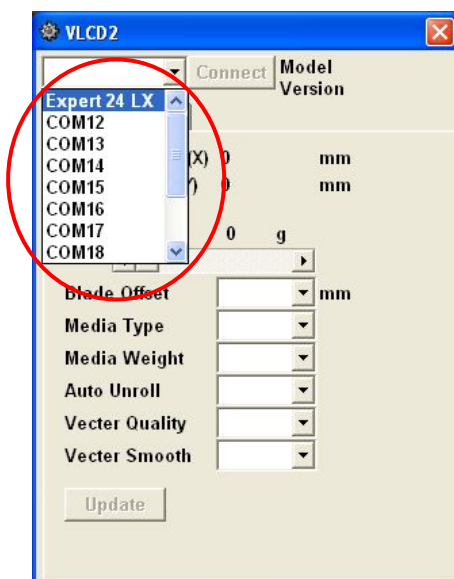

Figure 3-2
Step 3 choose the right port connected to your computer (Figure 3-2).